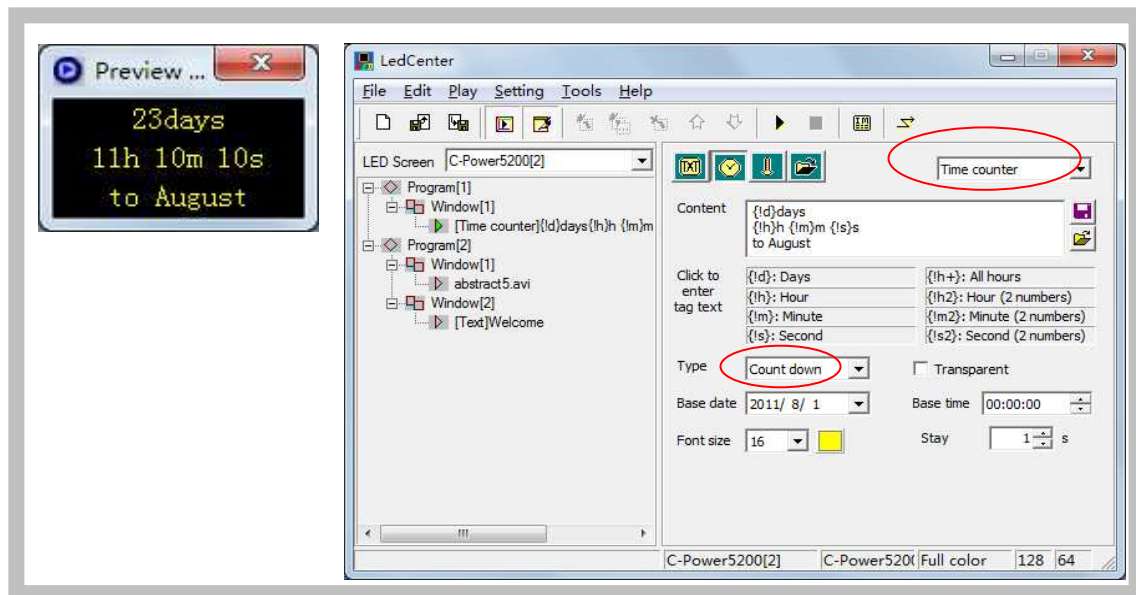
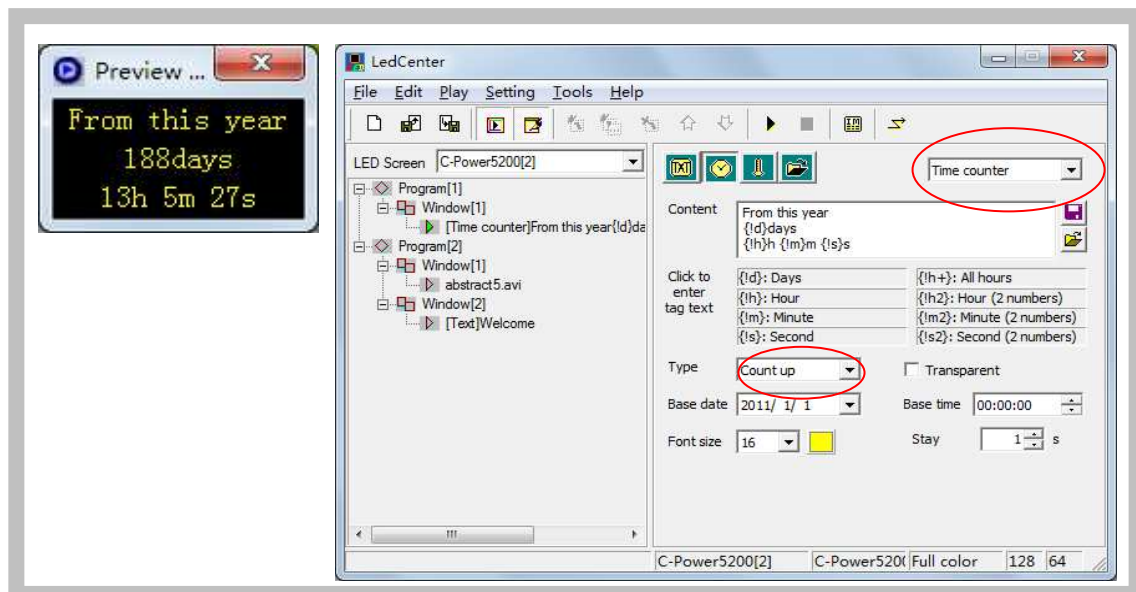

Figure27 Count down setting
Figure28 Count up setting
- A. Content: Edit the contents to display, when insert variable tag text (click to insert the variable tag texts below the content input field), the controller will calculate the exact real time variable value to display. For example, the location where insert {!d}, will display the exact value of day different between the real time and the **Base date** and **Base time**, as Figure27 and Figure28 shown.